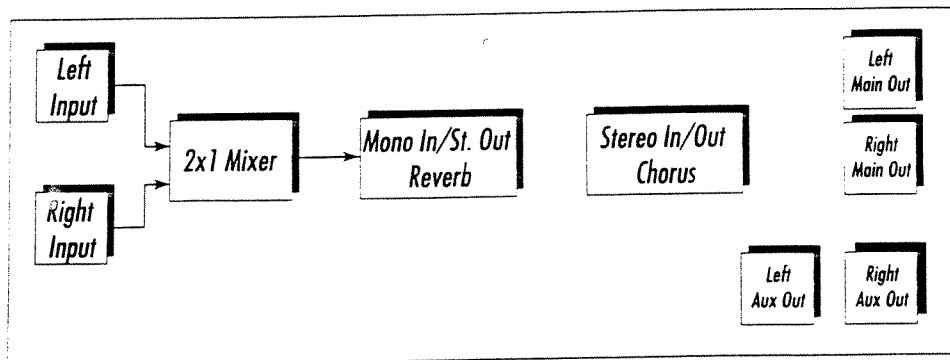

Fig. 3-6.
7. Using the Parameter <+> button, scroll until the top line reads 2x1 OUT 1. The output of the mixer Module is now connected to input 1 of the MFX Reverb. The Algorithm routing looks like figure 3-6.